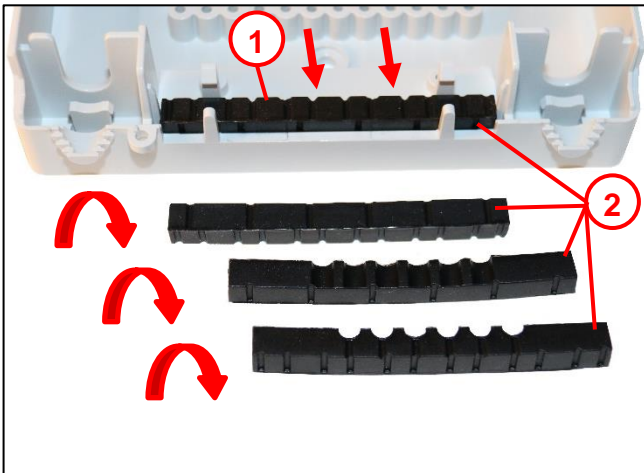

Fig. 8
- Insert 2x rubber grommets (1) into the fixture provided.
- Rotate the rubber grommets by 90° each for different cable diameters (see example in Fig. 8).
**Note:** The rubber grommets must always be inserted in such a way that the continuous sealing barrier (2) faces outwards.